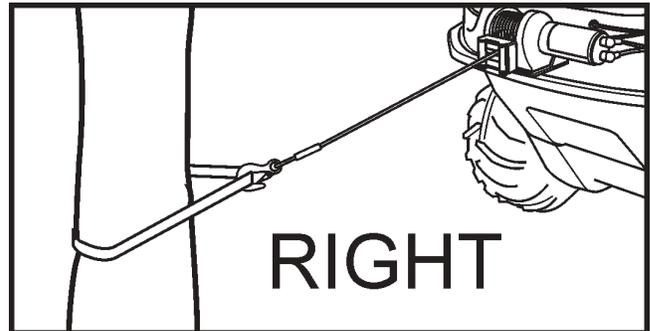
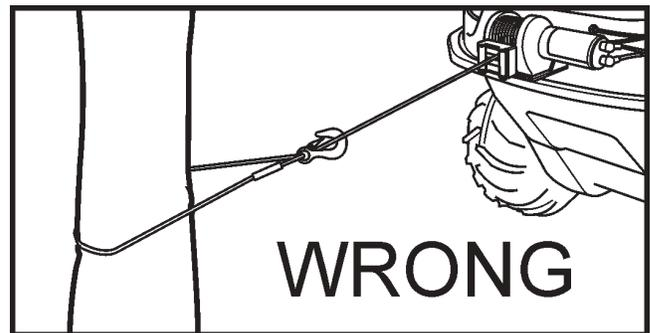

Figure 11-22. Correct hook-up.
Figure 11-23. Incorrect hook-up.
8. **NEVER HOOK THE WIRE ROPE BACK ONTO ITSELF.** Use a nylon sling. (Figure 11-22.) Hooking the wire rope onto itself can damage the rope (Figure 11-23).